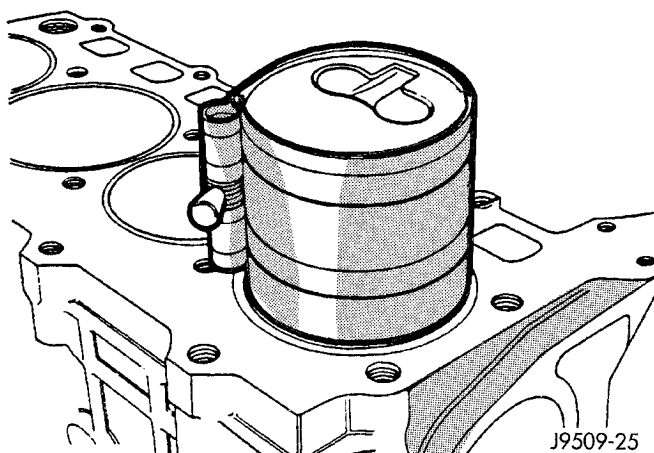

Fig. 48 Installing Piston
(3) Immerse the piston head and rings in clean engine oil, slide the ring compressor, over the piston and tighten with the special wrench (Fig. 48). Ensure position of rings does not change during this operation.
(4) Face chamber recess side of piston towards camshaft.
(5) Install connecting rod bolt protectors on rod bolts.
(6) Rotate crankshaft so that the connecting rod journal is on the center of the cylinder bore. Insert rod and piston into cylinder bore and guide rod over the crankshaft journal.
(7) Tap the piston down in cylinder bore, using a hammer handle. At the same time, guide connecting rod into position on connecting rod journal.
(8) Install rod caps. Install nuts on cleaned and oiled rod bolts and tighten nuts to 29.5 N-m (22 ft. lb.) plus 60°.